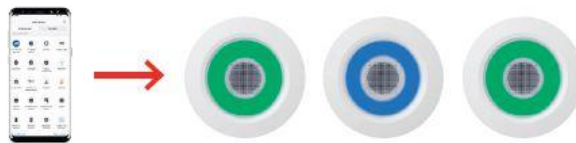

Figure 10
5.3 After five “On” – “Off” cycles, the light will begin to cycle between *BLUE* and *GREEN*. The desired “MASTER” unit should be set to *BLUE* and the remaining satellite units should be set to *GREEN*. Steps 5.2 and 5.3 must be repeated for each device in the desired speaker group. Only one device can be configured at a time. The speaker group should look like the units in *Figure 10* once configured correctly.